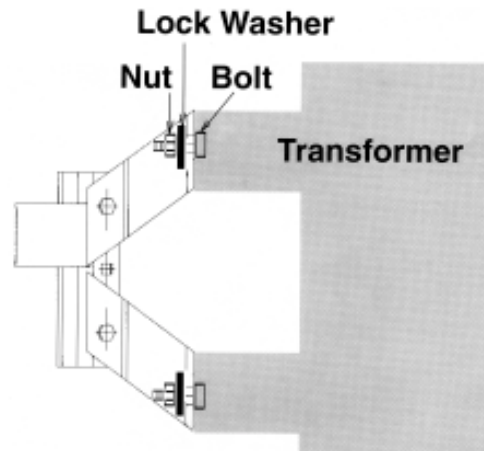

Figure 2
5. Transformers or other equipment can now be installed using bolts, washers and nuts provided (see Figure 2). Install ground wire between the two stainless steel wire clamps provided.